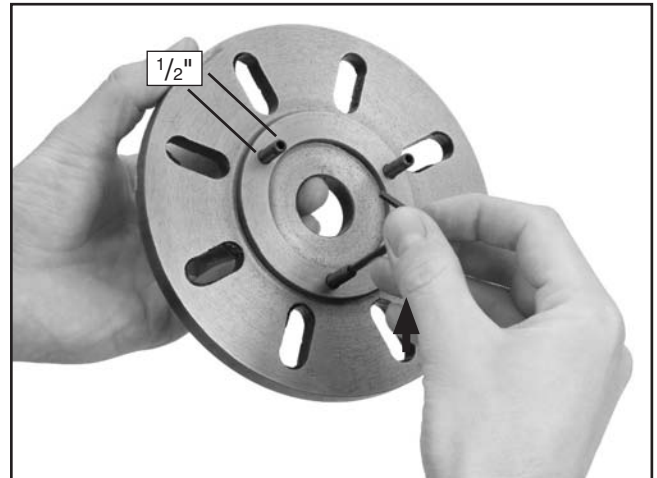

Figure 16. Installing studs.
2. Measure the stud protrusion, and make sure that the studs extend at least $\frac{1}{2}$ " from the chuck or faceplate (see **Figure 16**).